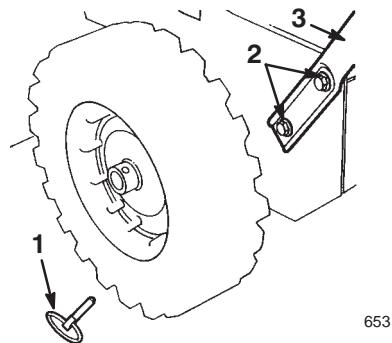

Figure 2
2. Remove the axle pins from both wheels (Fig. 2) and slide the wheels outward on the axle approximately one inch (2.5 centimeters).
4. Position the left side of the handle assembly against the left side of the snowblower, align the handle mount holes with the holes in the side plate, and secure the left side of the handle assembly with 2 bolts and curved washers until they are finger tight (Fig. 2).